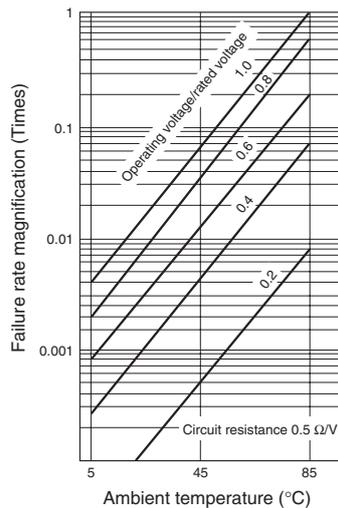
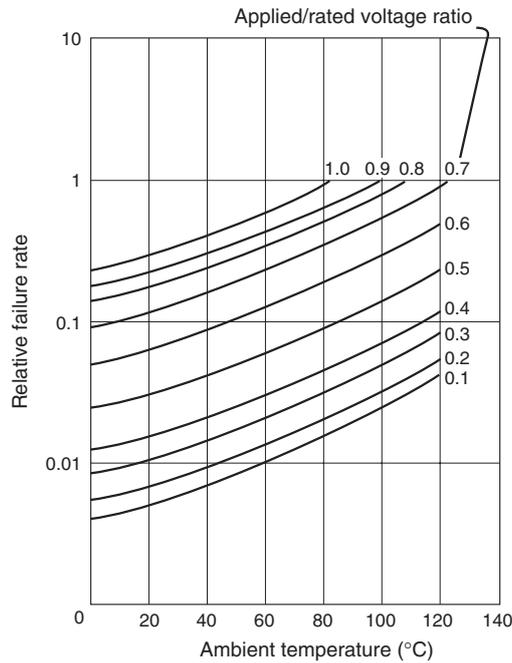

Figure 34. Relationship of Failure Rate to Operating Temperature and Applied Voltage
Figure 35. Relationship of Failure Rate to Operating Temperature and Applied Voltage in MIL Cases
Figure 34 illustrates expression (18). The vertical axis is the ratio of the actual failure rate to the failure rate λ_0 when tested at $T_0 = 85^\circ\text{C}$, $V_0 = \text{rated voltage}$. The horizontal axis is the actual environmental temperature. The parameter of each graph is (Actual operating voltage)/(Rated voltage), which in general is called the derating ratio.
Figure 35 shows the data of MIL-HDBK-217. This indicates the relative failure rate in which the failure rate when tested at an ambient temperature of 85°C and the rated voltage is made 1.
If we estimate the failure rate for an operating voltage/rated voltage ratio of 50% and an ambient temperature of 40°C using Figure 34, it is 0.005 times the failure rate for the rated voltage at 85°C, which approximates reality, but if we estimate it using the MIL-HDBK-217 graph (Figure 35), it is 0.03 times, which seems to be an order larger.